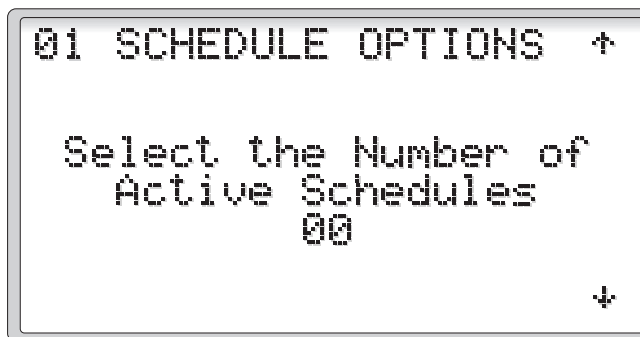

Figure 26
2.3.2.1 Schedule Options (Figure 26)